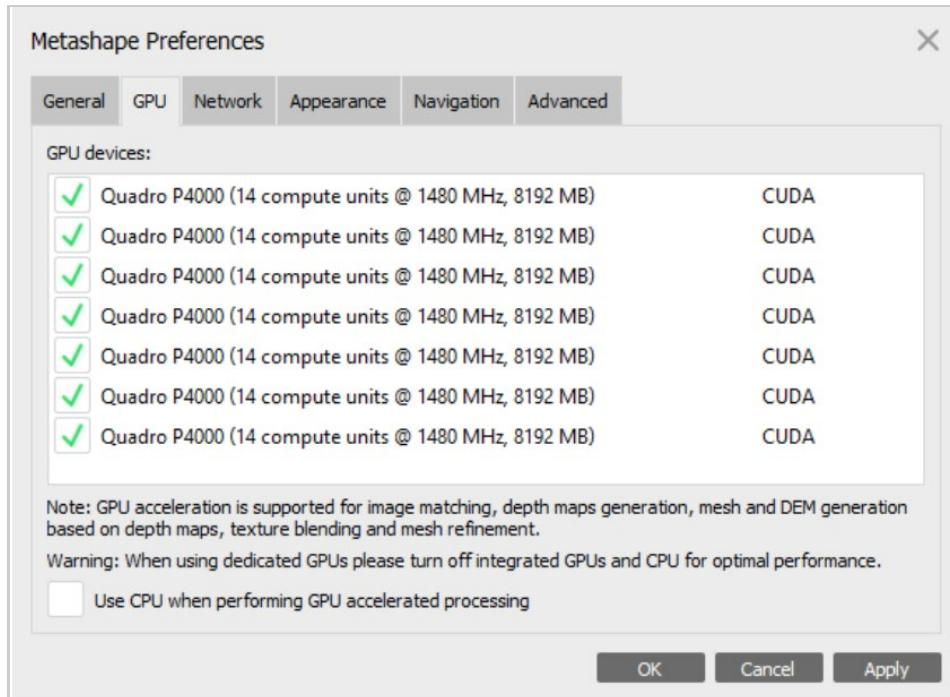

Figure 4.3 Example of preferences window with all GPUs enabled.
In the Agisoft ‘Tools’ tab, select Preferences, select GPU tab, and check the box for any GPUs listed. This will now be the automatic setting each time you open Agisoft. (Figure 4.3).
9. Right click and choose ‘Estimate Image Quality’ (Figure 4.3).